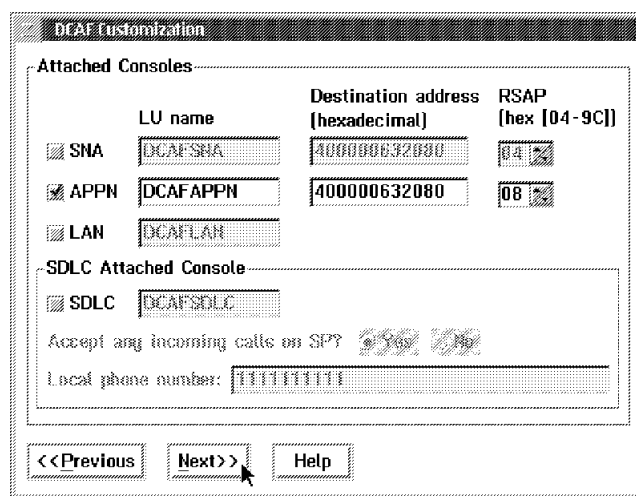

Figure 5-2. DCAF Customization
APPN LU name (Figure 5-2 on page 5-3)	LU name (Step 13 on page 5-7)
APPN Destination address (Figure 5-2 on page 5-3)	LAN Destination address (Step 13 on page 5-7)
RSAP (Figure 5-2 on page 5-3)	Remote SAP (Step 13 on page 5-7)
**Step 7.** Fill in the **Local LU alias** (see Step 17 on page 5-8), and the **Fully qualified PLU**. Make sure the first field matches the **Local Node Network ID** in Step 9 on page 5-6, and that the second field matches the **APPN LU name** in Figure 5-2 on page 5-3.